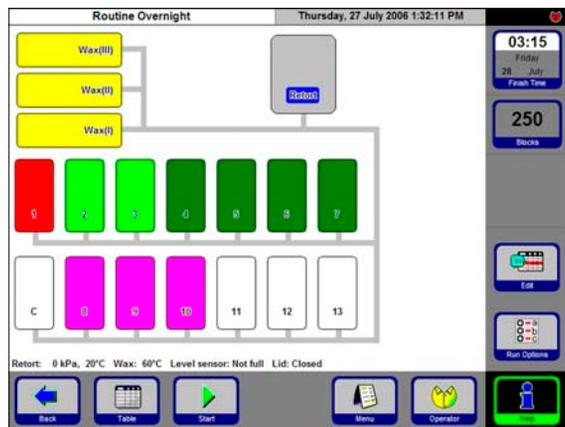

Fig. 58
- A graphic representation of the stations / retort will be displayed. The stations required for the program you are about to start will be colored in the corresponding reagent group colors (Fig. 58).